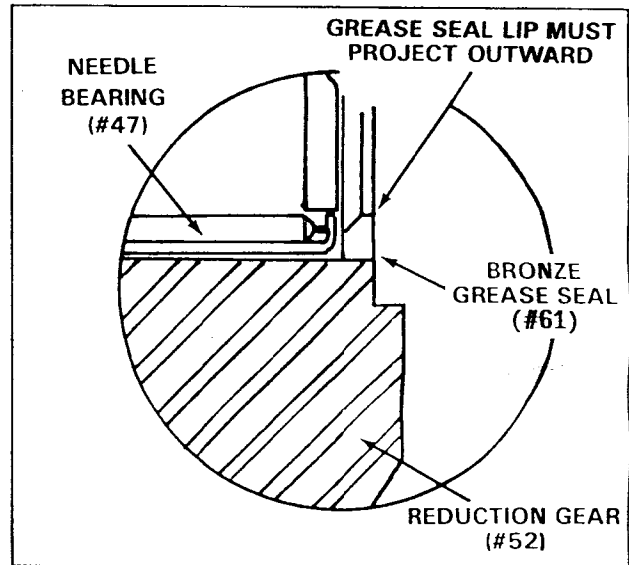

FIGURE 13
- 5.22 If needle bearing (#47) has been replaced, then the bronze grease seal (#61) must also be replaced. Press new seal (#61) into reduction gear (#52) making sure seal lip projects outward and seal is flush or .010 max. depressed below face of reduction gear. See figure 13.